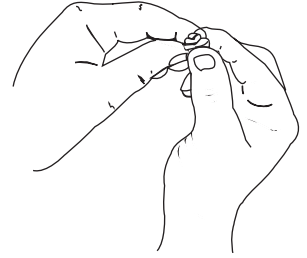

Figure 33
5. Squeeze the filter to spread and remove excess oil. See Figure 33.